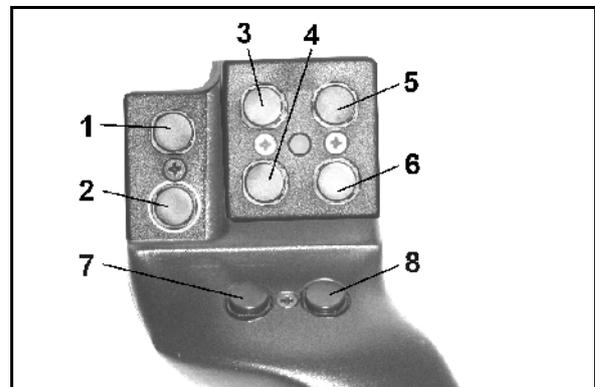
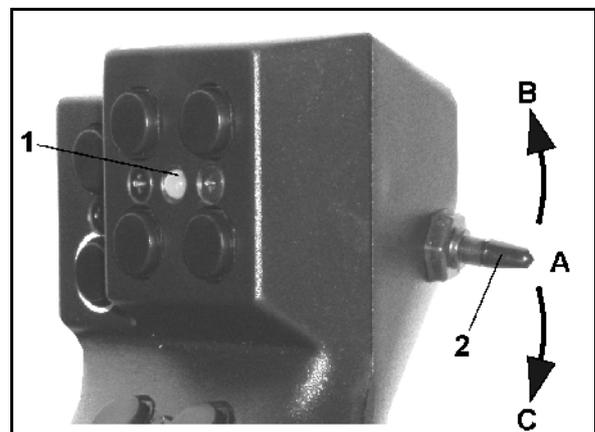

Fig. 71
Fig. 72
To operate the **AMATRON+**, the multifunction stick (Fig. 71) has 8 buttons (1 - 8). In addition, the assignment of the keys can be changed 3-fold by means of a switch (Fig. 72/2).
-  central position (Fig. 72/A) and can be pressed
-  up (Fig. 72/B) or
-  down (Fig. 72/C).
The position of the switch is indicated by an LED (Fig. 72/1).